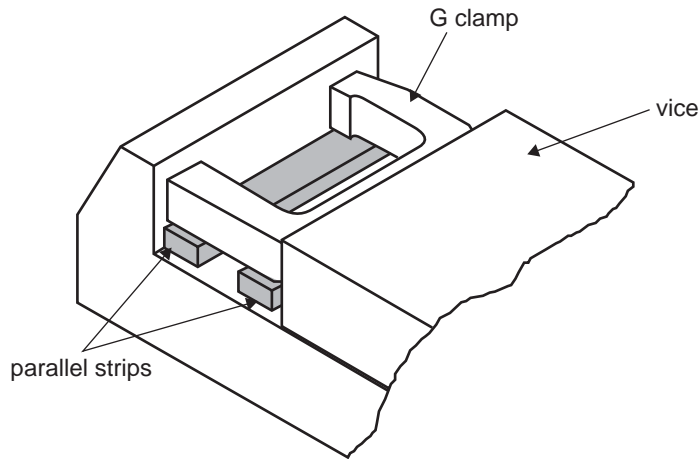

Figure 12
- f. Figure 12 shows the G clamp body held for machining the inside shape.